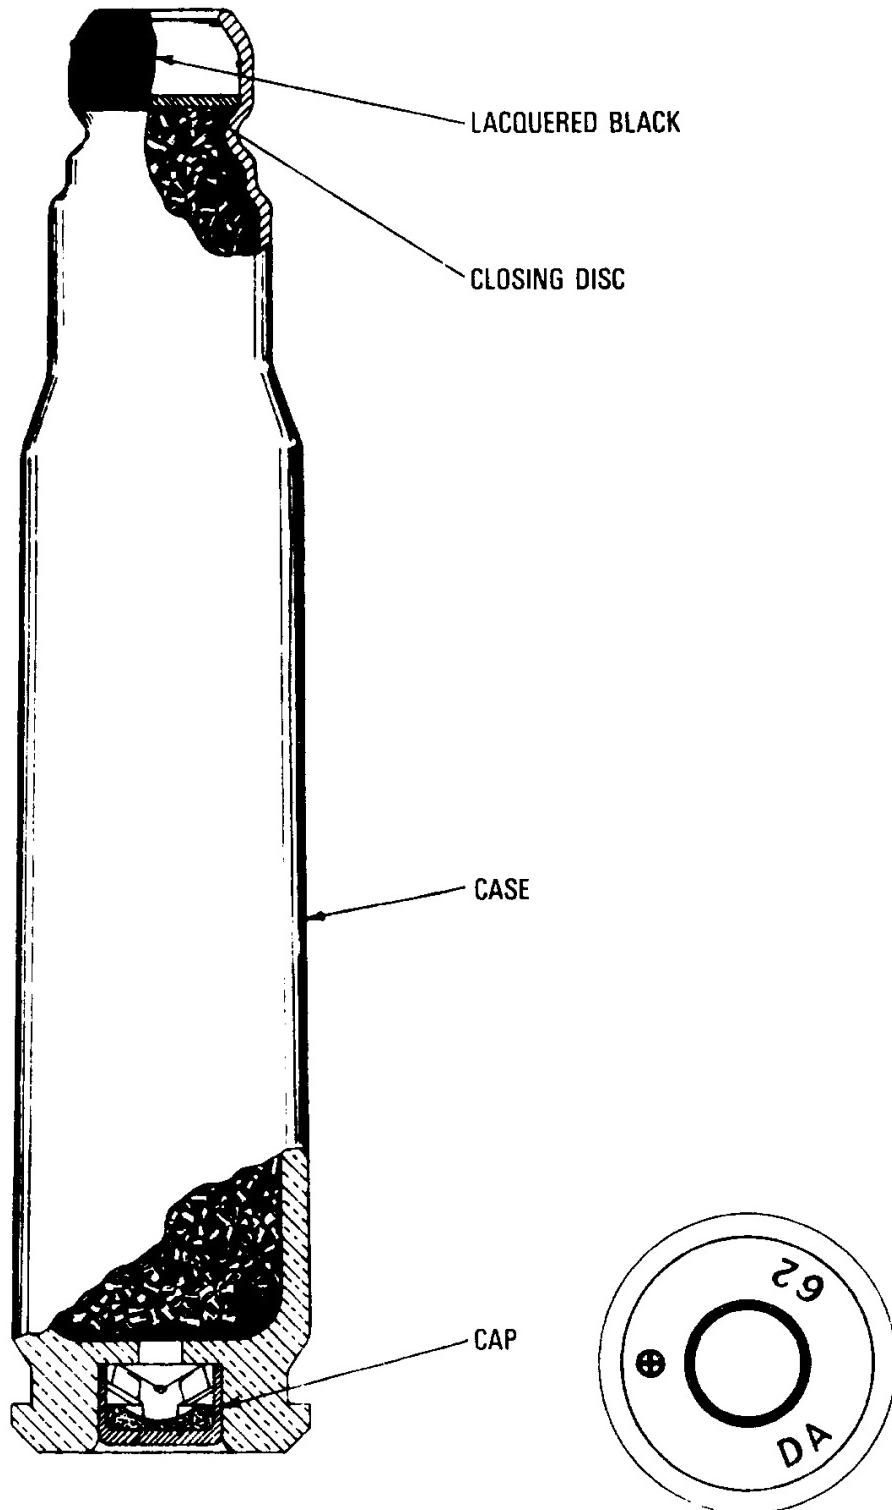
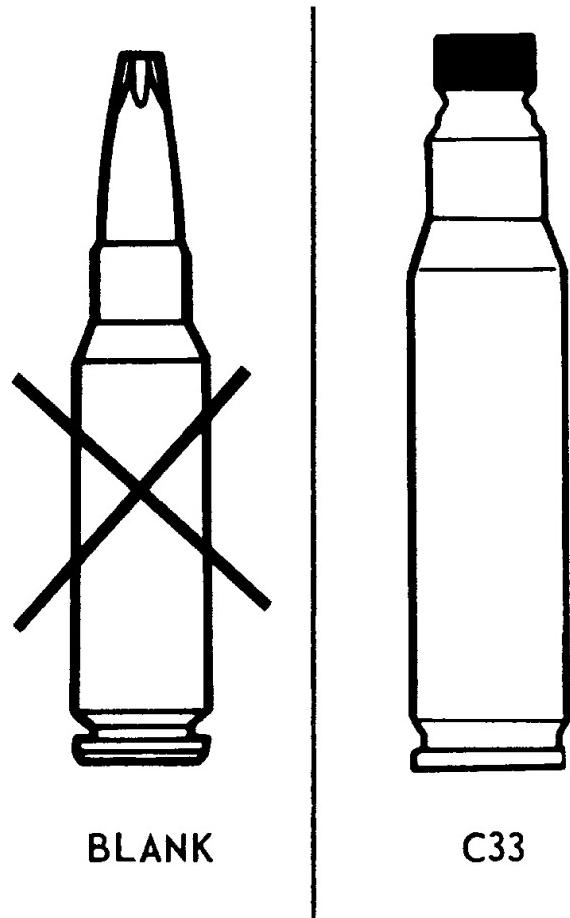

Figure 4-3      Cartridge, Grenade, C33
Figure 4-4     The 7.62 mm Blank Cartridge and the C33 Cartridge
2. Cartridge, Grenade C33. Grenade cartridges are non-bulleted cartridges containing a special charge which produces the pressure required to propel a rifle-launched grenade. The C33 Grenade Cartridge (see Figure 4-3) may be identified by the method of closure (a cone crimp over a deep-seated closing disc) and by a lacquered BLACK band approximately 1/4-inch wide around the mouth. These two features, which are also shown in Figure 4-4, distinguish rifle grenade cartridges from the ordinary blank cartridges which must NEVER be used in place of the C33 cartridges. The C33 cartridges are issued in seated boxes of ten and are normally issued at the same time as the adapters. The cartridge cannot be magazine fed because the blunt end of the cartridge tends to cause the round to jam just below the breach entrance. Grenade cartridges can be irreparably damaged by attempting to magazine feed them.